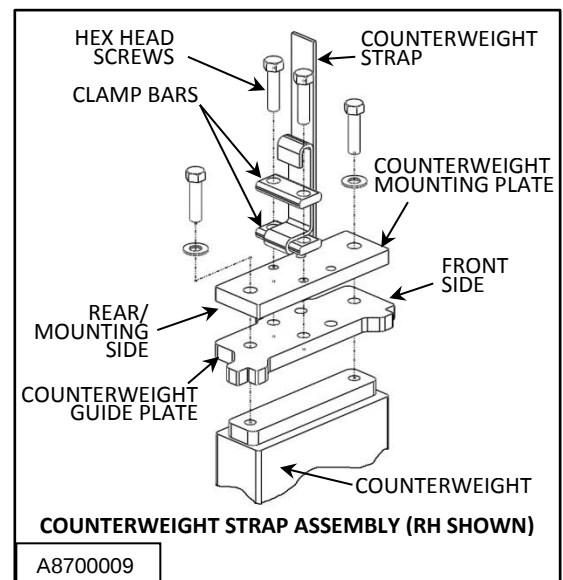

Figure 52
12. Attach the new strap to the counterweight by routing the strap through the clamp bars in the same manner as the old strap. Tighten the hex screws to clamp the strap to the weight. (See Figure 52)